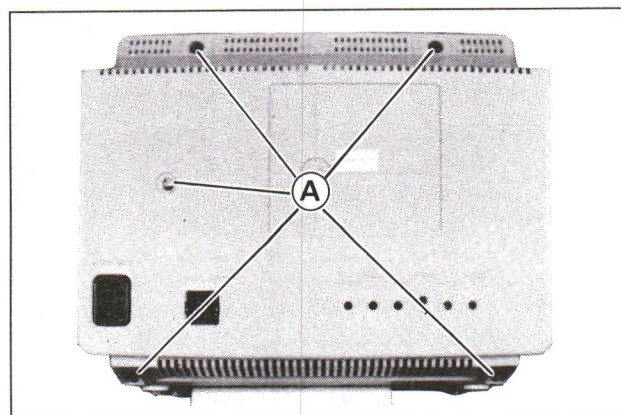

Fig. 1
1. Unplug the power supply cord and unscrew the five screws marked (A) shown in Fig. 1.